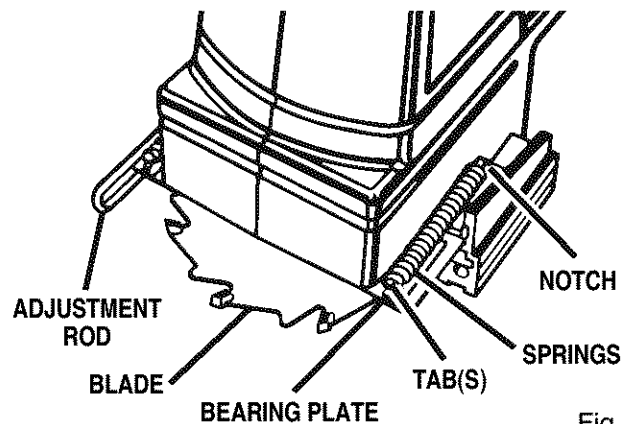

Fig. 29
- Using a pair of needle nose pliers, stretch and release springs from tabs on bearing plate. See Figure 29.
- Replace rear base assembly. Position adjustment rod in its proper place as shown in figure 29.